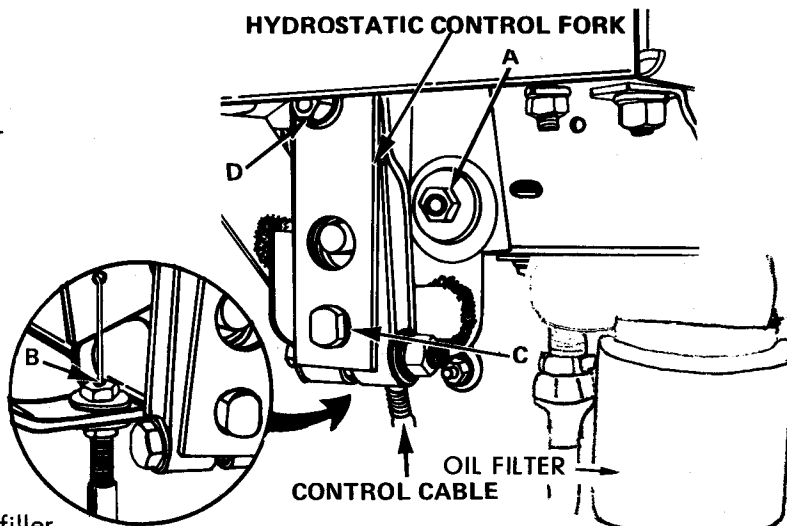

FIGURE 13
CHANGE TRANSMISSION FILTER (Figure 13)
Oil the roller in the cam slotted plate shown in Figure 13 with a few drops of light oil every 25 hours of operation or monthly.
5. Periodically oil hydrostatic control pivot shaft at Point C, Figure 13.